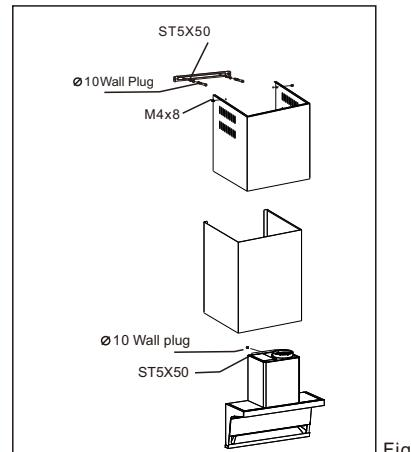

Fig.6
- Fix the hood body to wall using 2 (two) ST5 x 50 screws provided. Tighten screws firmly. Note: Adjust the hood body alignment if necessary (Fig.6).
- Fix the inner duct to mounting bracket using 2 (two) M4 x 8 screws provided (Fig.6).
- Fix the outer duct to mounting bracket using 2 (two) M4 x 8 screws provided (Fig.6).
- Fix the outer duct to the hood body using 2 (two) M4 x 8 screws provided (Fig.6) ESlide the outer duct downwards and ensure that it is well seated on the hood body.